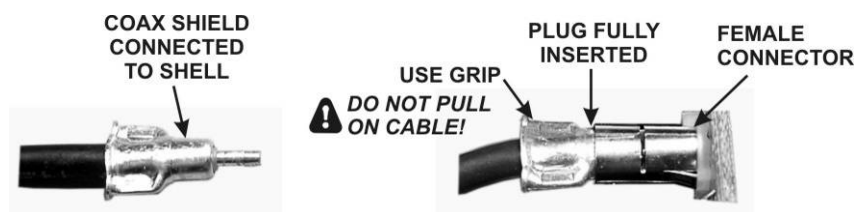

Figure 4. TMP Coaxial Connectors.
**⚠** In the following steps you will handle small TMP coaxial connectors. These are friction-fit connectors shown in Figure 4. Handle the connectors by the grips as shown. *Do not pull on the coaxial cable.*